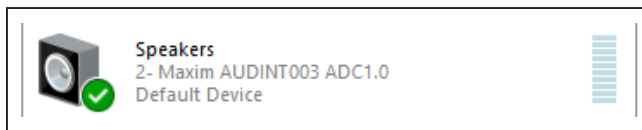

Figure 2. Playback Device
- 12) Open the Windows' **Sound** dialog and select the **Playback** tab. A **Speakers** item such as Figure 2 should be listed as an available playback device.